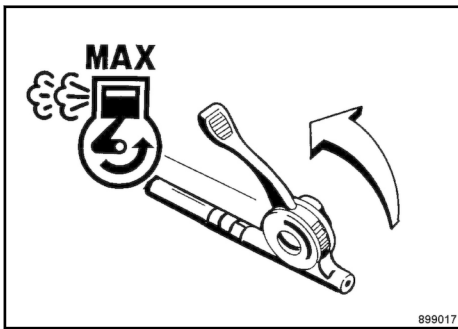

Fig. 104
3. Start the engine and shift the throttle lever to max. speed position ↪ Fig. 104.